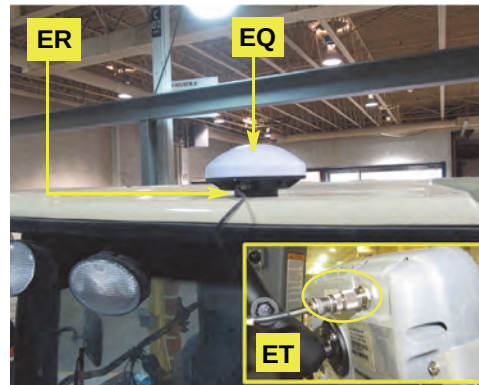

Figure 3g: Antenna installed and connected
- h. Using magnetic mount **ER** install antenna **EQ** at or near the front center of the cab roof (Figure 3g—you can enter offset data later during MAX/STX pre-calibration setup). Connect the machine's pre-installed antenna cable to antenna **EQ**. Using adapter **ET**, connect the other end of the cable to Outback MAX or STX—Figure 3g inset).